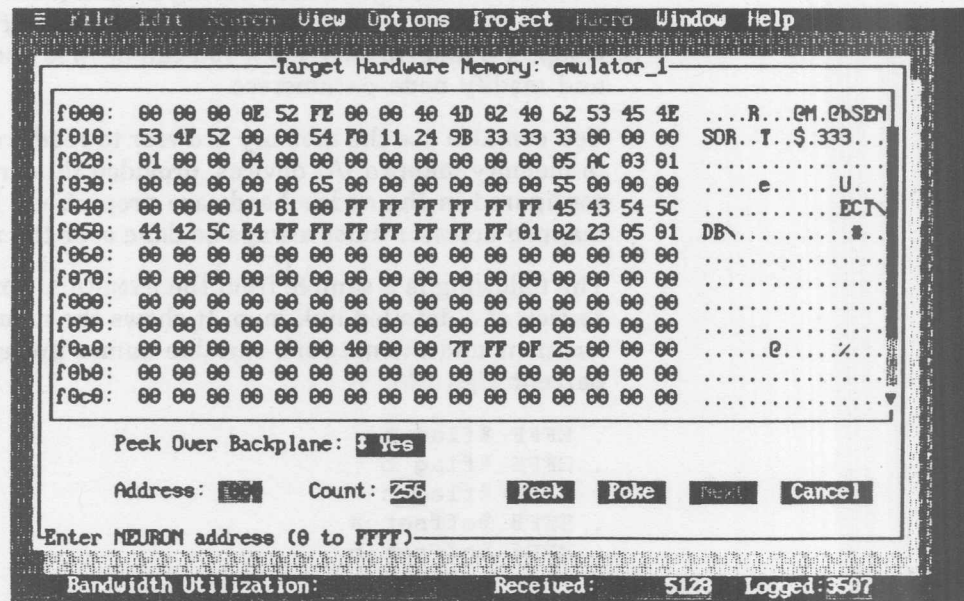

Figure 13-3. Target Hardware Memory Window
- 5 Select the Memory command button. The memory browser for the first target hardware object selected displays in the Target Hardware Memory window (see figure 13-3).